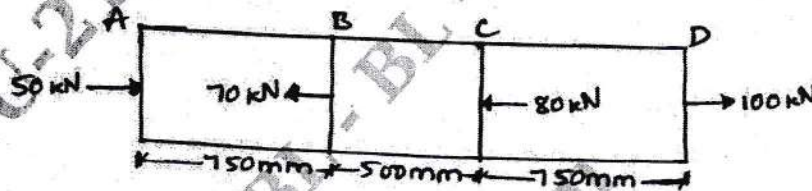

Fig.Q1(b)
- b. A circular bar of uniform cross sectional area of 1000 mm^2 is subjected to forces as shown in Fig.Q1(b). If Young's modulus of the material is 200 GPa, determine the total deformation.